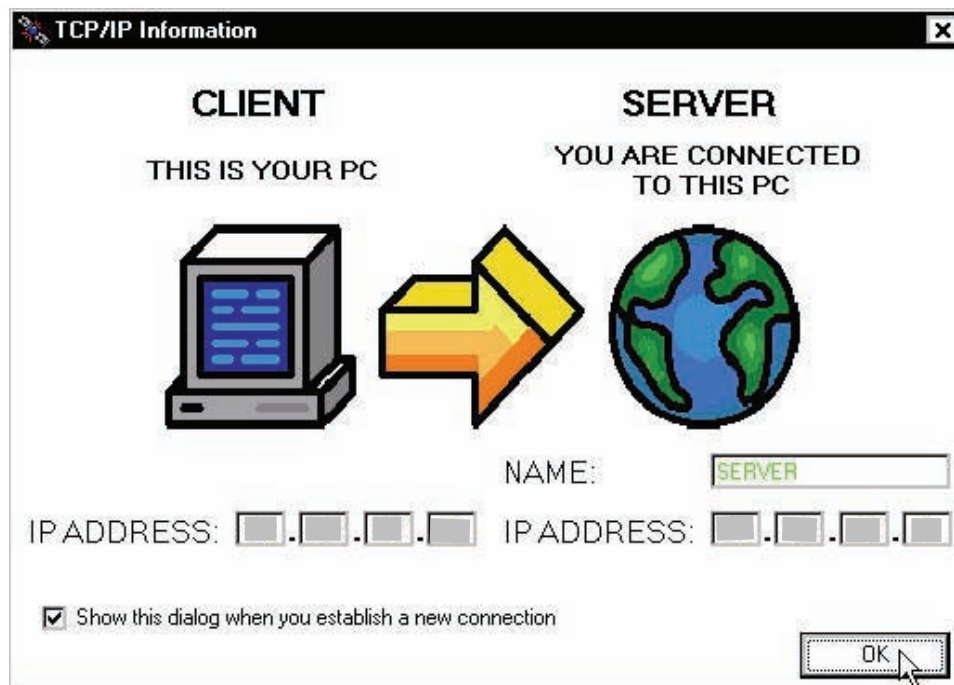

Figure 32. TCP/IP Information window.
- If the connection is successful, an information screen will appear, informing you of the IP addresses for your machine and the far machine. Click OK. (See Figure 32.)